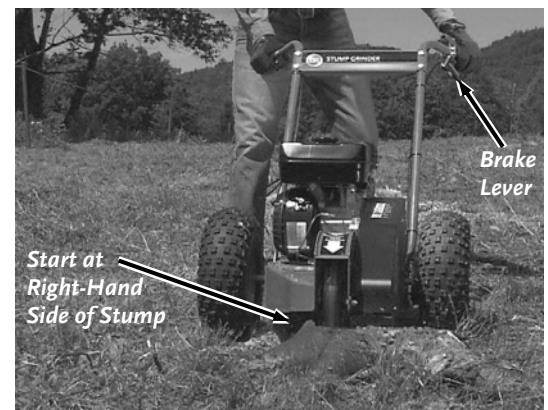

Figure 39
3. Move the Stump Grinder into position with the Cutter Head at the right side of the stump on the edge closest to you (not touching) near the top edge (**Figure 39**).